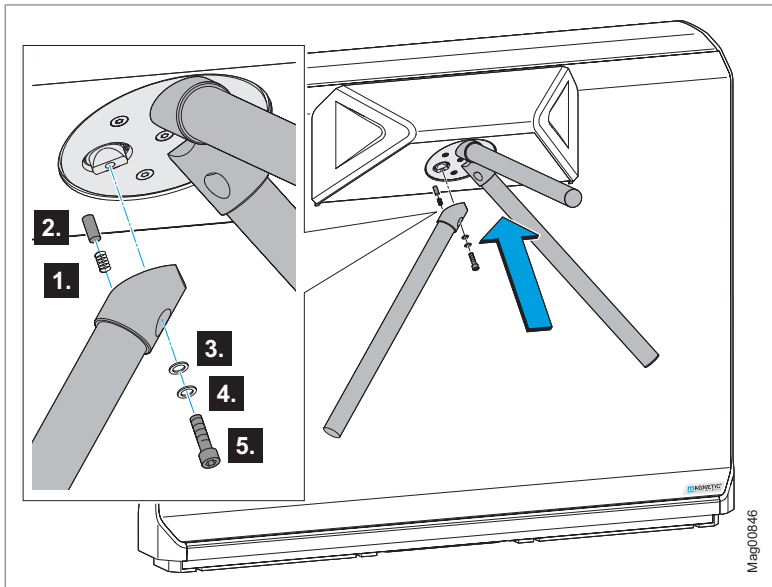
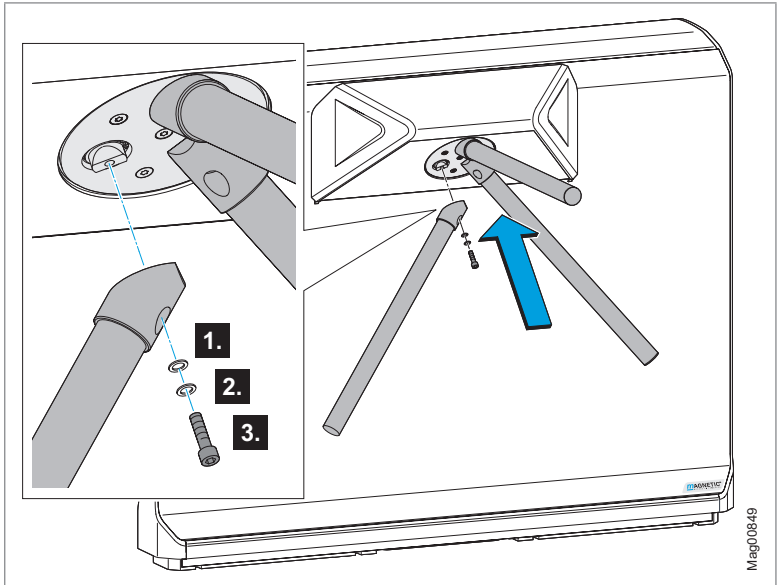

Fig. 27: Assembly of the blocking arms with drop arm function
Fig. 28: Assembly of the blocking arms without drop arm function
- Page 56, chapter Fig. 27
- Page 57, chapter Fig. 28
2. Disassemble blocking arms. ↗ Page 56, Fig. 27 or Page 57, Fig. 28